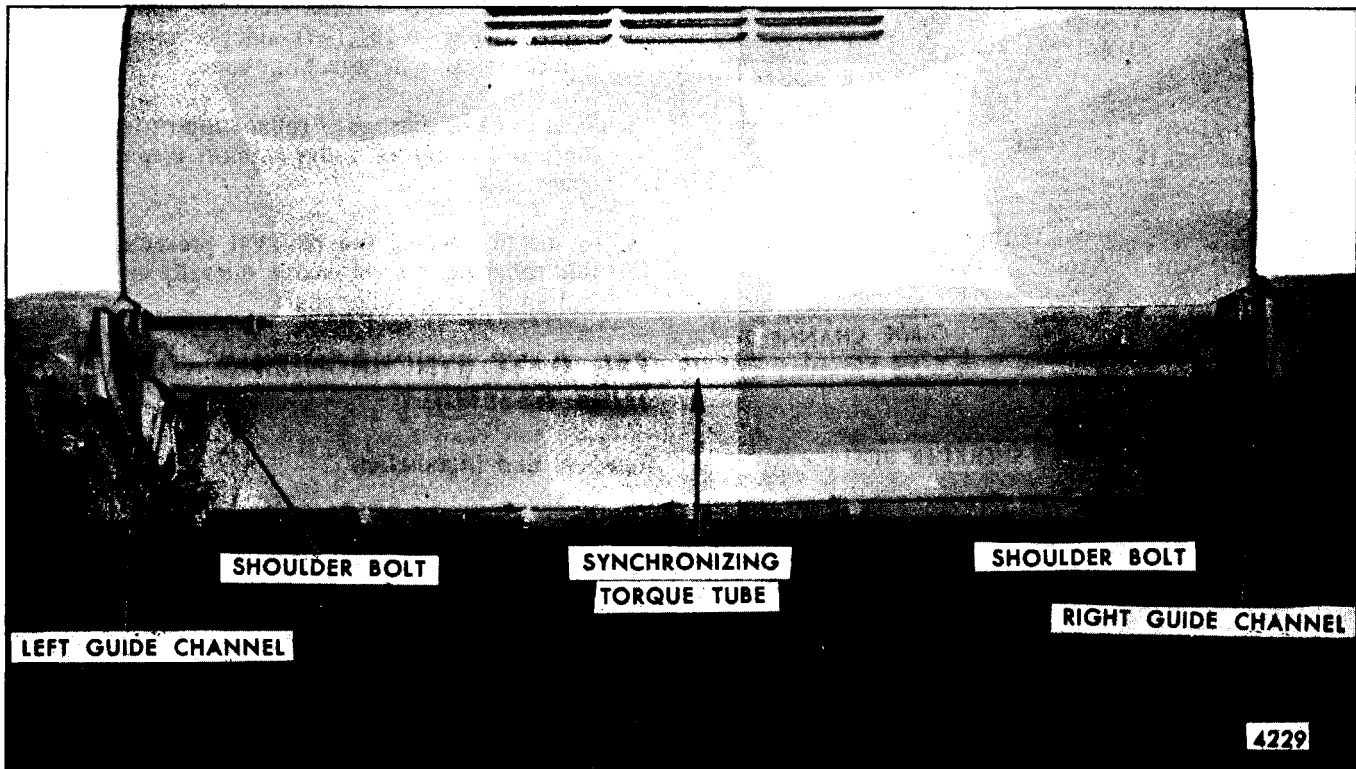

Fig. 9-21-Tail Gate Synchronizing Torque Tube and Guide Channels
5. Rotate guide channels downward for clearance to allow disengagement of right and left torque rollers from upper end of guide channels (Fig. 9-21).